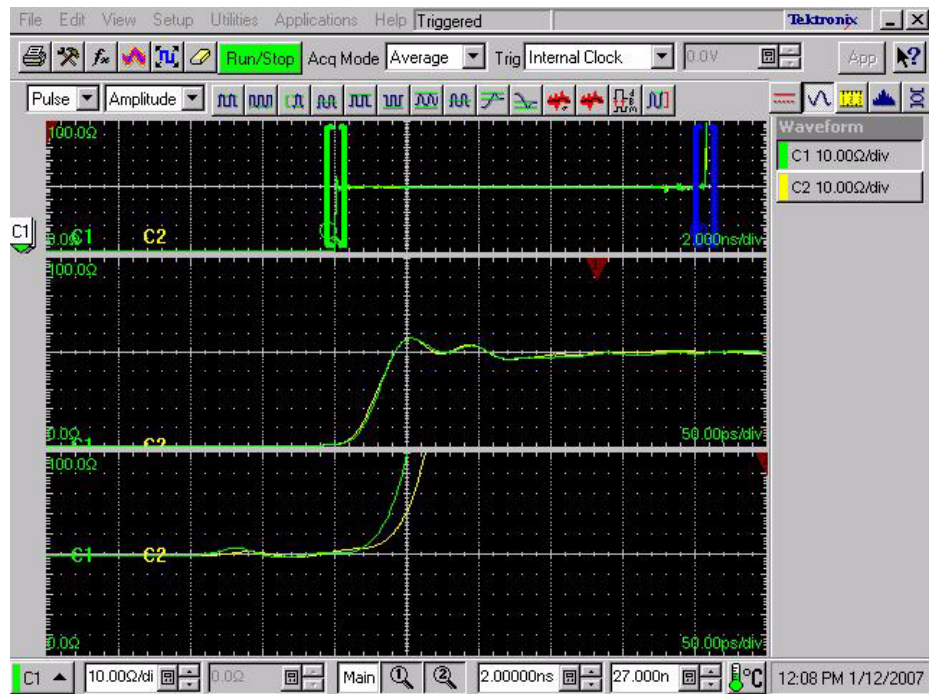

Figure 3: Magnifying the TDR step pulses and the waveforms at the open ends of the test fixture
- a. Press the **VIEW Mag1** button, and then use the **HORIZONTAL POSITION** knob and **HORIZONTAL SCALE** knob to display the TDR step pulses properly (see Figure 3 on page 4).
- b. Press the **VIEW Mag2** button, and then use the **HORIZONTAL POSITION** knob and **HORIZONTAL SCALE** knob to display the waveforms at the open ends of the test fixture properly (see Figure 3).